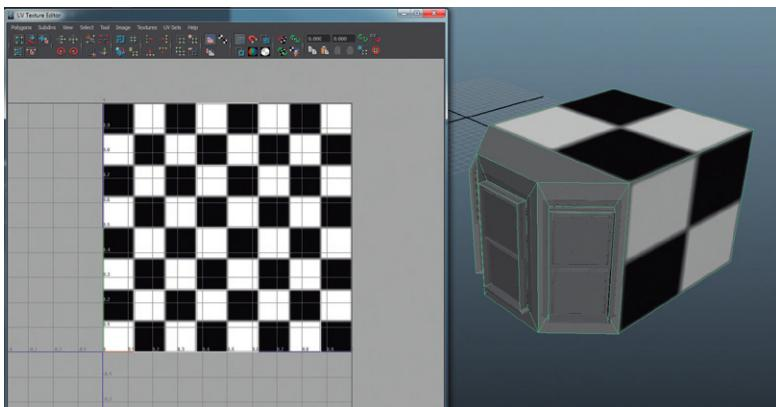

FIG 5.8 Results of new material with checkerboard as the color.
Step 6: Make sure the new material is visible on the wall shape. To do this move the mouse over your persp View Panel and hit 6 (Shaded with Texture) (Fig. 5.8).